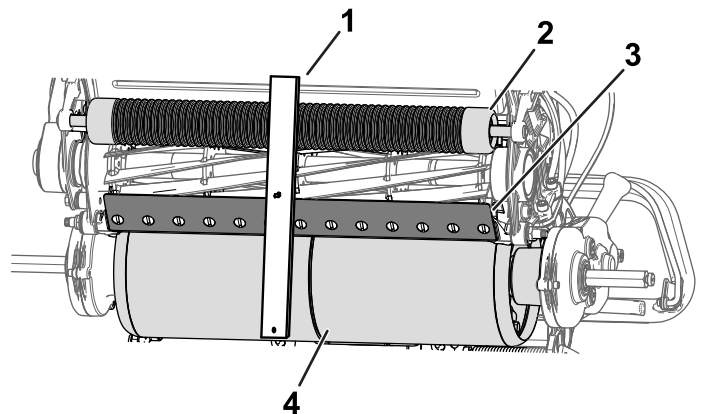

Figure 13
2. Hook the screw head of the height-of-cut gauge onto the right side of the cutting edge of the bedknife and rest the rear end of the bar onto the traction drum (Figure 13).